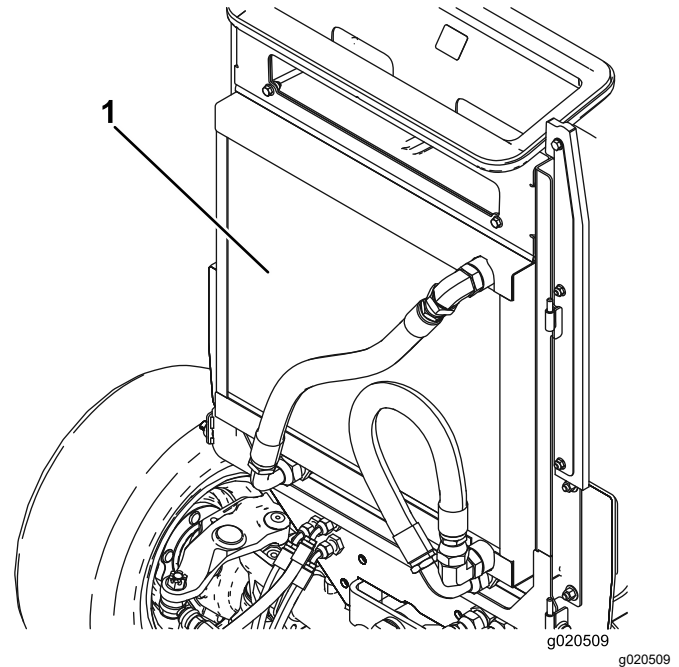

Figure 110
6. Clean both sides of the oil cooler/radiator area (Figure 110) thoroughly with compressed air. Start from the front and blow the debris out